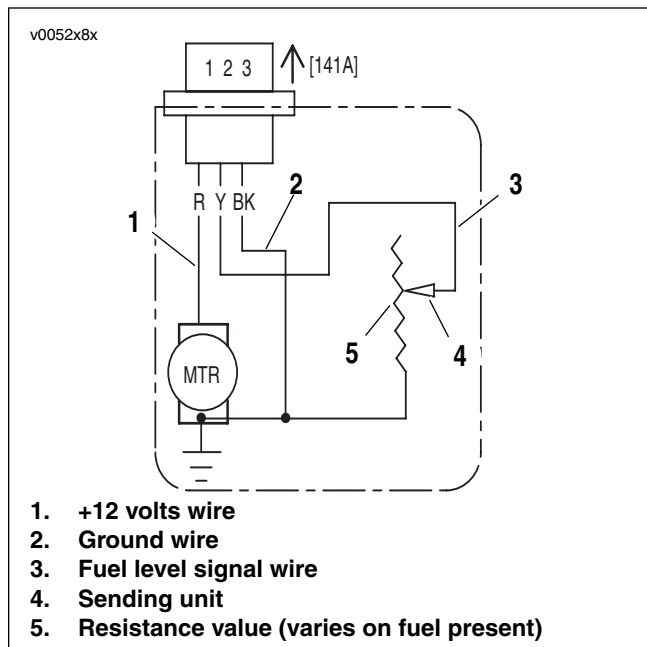

Figure 2-20. Fuel Gauge Schematic (VRSCA/VRSCD)
See Figure 2-20. With ignition switch ON, the fuel gauge (1) is connected to +12 volts. Current flows through the gauge and variable resistor (5) in the fuel gauge sending unit (4) to ground. The sending unit float controls the amount of resistance in the variable resistor.